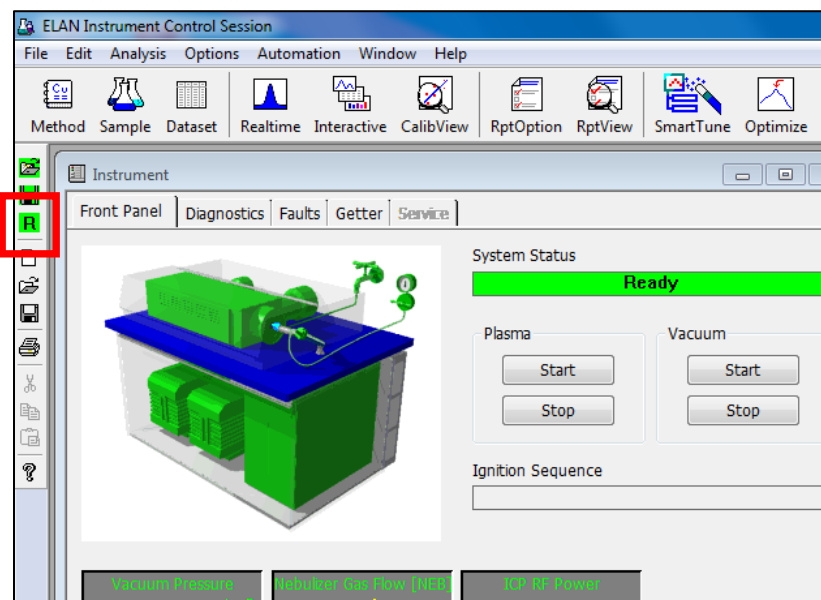

Figure 7: Opening a new dataset.
7. Open a new dataset (Figure 7).